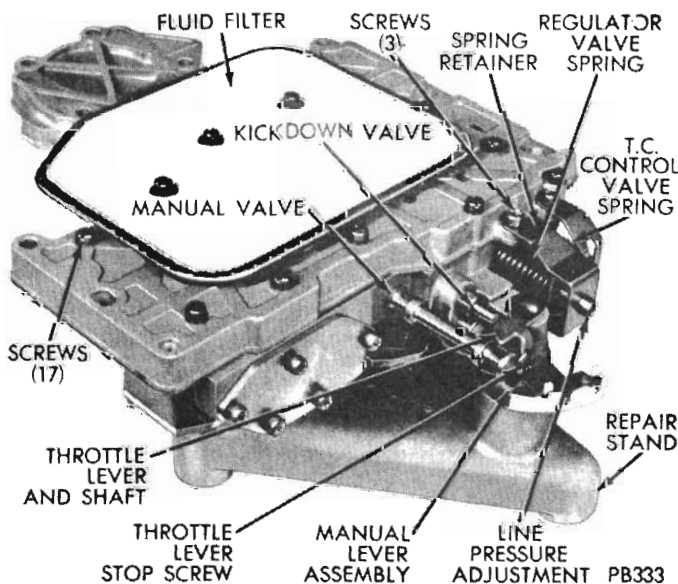

Fig. 52 – Valve body and control assembly
(1) Place valve body assembly on repair stand, Tool E21C5B, (Fig. 52). Remove three screws from fluid filter and lift off the filter.
(2) Remove (17) transfer plate retaining screws and 2 of the spring retainer mounting screws.